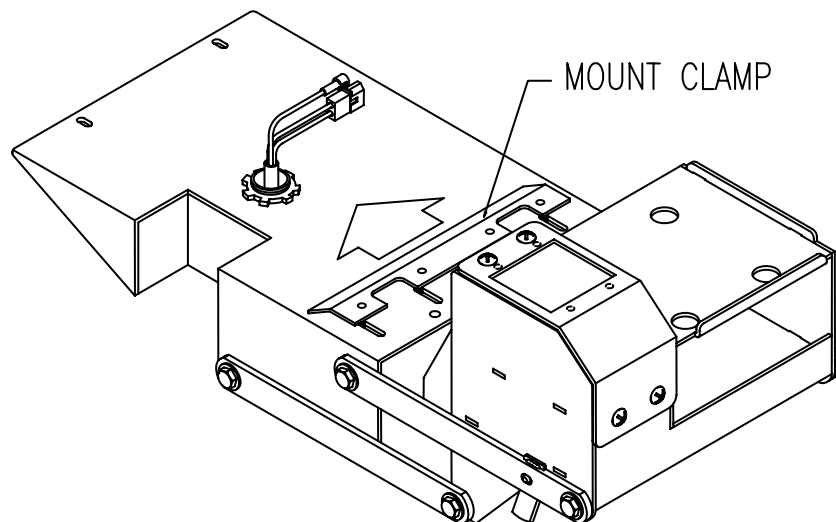

Figure 2
4. Extend the cabinet until the locking pins are engaged in the slots in the arms and the mount and cabinet are positioned as shown in Figure 2, page 2.
5. Loosen the nuts securing the Splicing Station Mount Clamp and move the clamp in the direction shown all the way to the end of the slots (see Figure 2).
7. Position the mount plate so two Phillips Pan Head 10-24 x 3/8 Type F screws (item 12) and two #10 flatwashers (item 10) can be installed in the original cover screw holes shown.